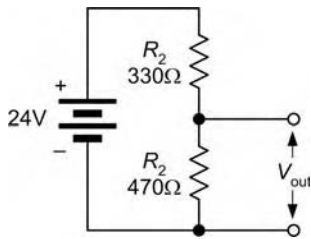

Figure 5.66
6. Determine the output voltage of the circuit shown in Figure 5.66.